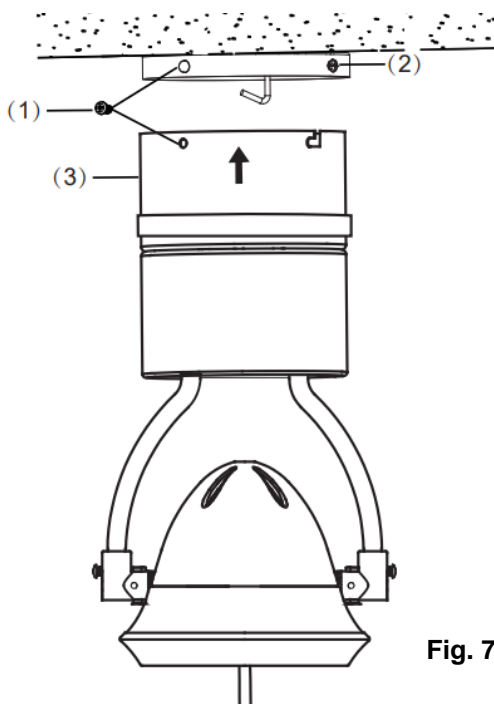

Fig. 7
- Lift the hanging canopy (3) of the fan assembly up to the mounting bracket and let the L-shape slot on the hanging canopy go through the two canopy screws with star washer (2). (Fig.7)
- Turn the hanging canopy (3) until it locks in place at the end section of the L-shape slot, ensure the star washer are between the hanging canopy (3) and screw head. Secure it by tightening the two canopy screws with star washer (2). (Fig.7)